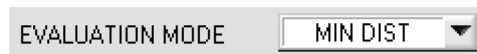

Fig. 20 PARA1 tab – EVALUATION MODE – MIN DIST
- The `CALCULATION MODE` function field is active in the evaluation modes `FIRST HIT`, `BEST HIT`, `MIN DIST`, see Fig. 20 and for `COL5`.